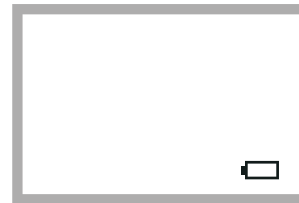

Figure10
- Replace battery when "  " appears in the bottom of LCD display. (See Figure 10)